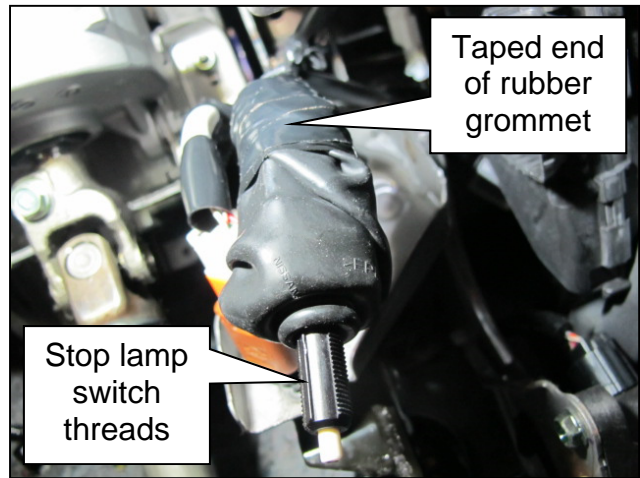

Figure 6
8. Tape off the large opening of the rubber grommet, as shown in Figure 6.